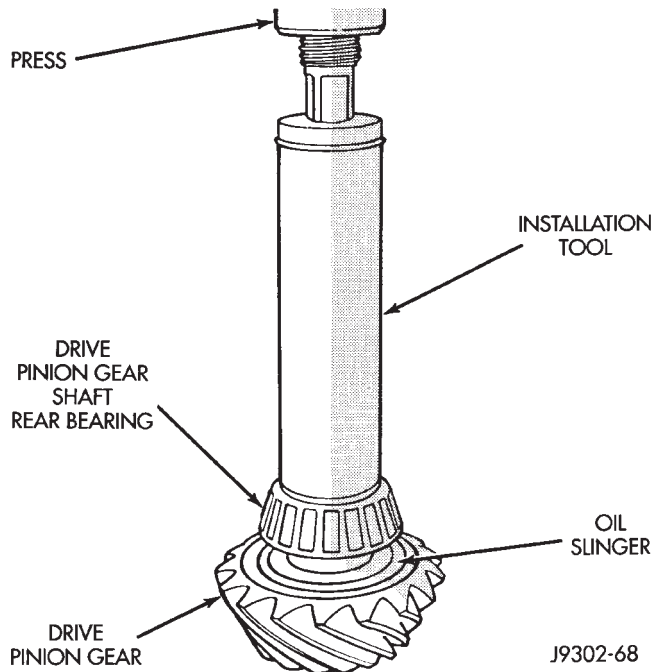

Fig. 44 Rear Pinion Bearing Installation
(6) Install the rear pinion bearing and oil slinger, if equipped, on the pinion gear with Installer W-262 and a shop press (Fig. 44).